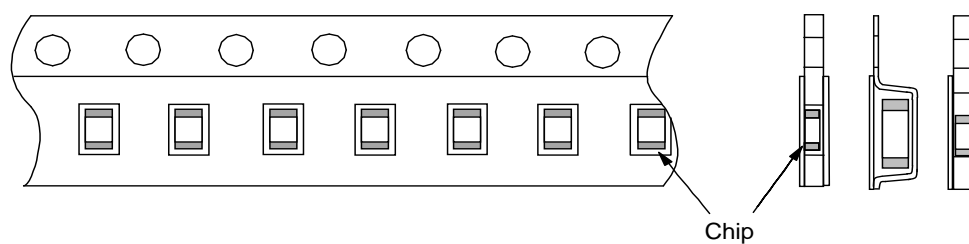

Fig.2 Dimensions of Reel
| 18                 | Board Flex                                               | Appearance                                                                                                                  | No marking defects | <p>Solder the capacitor on the test board (glass epoxy board) shown in Fig1. Then apply a force in the direction shown in Fig 2 for 60s. The soldering should be done by the reflow method and should be conducted with care so that the soldering is uniform and free of defects such as heat shock.</p> <table><tr><th>Type</th><th>a</th><th>b</th><th>c</th></tr><tr><td>GCD18</td><td>0.6</td><td>2.2</td><td>0.9</td></tr><tr><td>GCD21</td><td>0.8</td><td>3.0</td><td>1.3</td></tr></table>  <p>Fig. 1</p> <p>t : 1.6mm</p>  <p>Fig. 2</p> | Type | a    | b | c | GCD18 | 0.6 | 2.2 | 0.9 | GCD21 | 0.8 | 3.0 | 1.3  |
1.11 Reel is made by resin and appearance and dimension is shown in Fig 2.